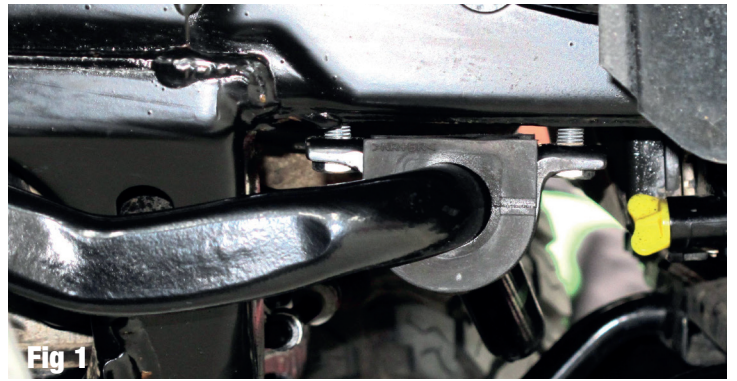

Fig 1
2. Remove both original bolts from the sway bar D-Bracket, both sides of vehicle (Fig 1).